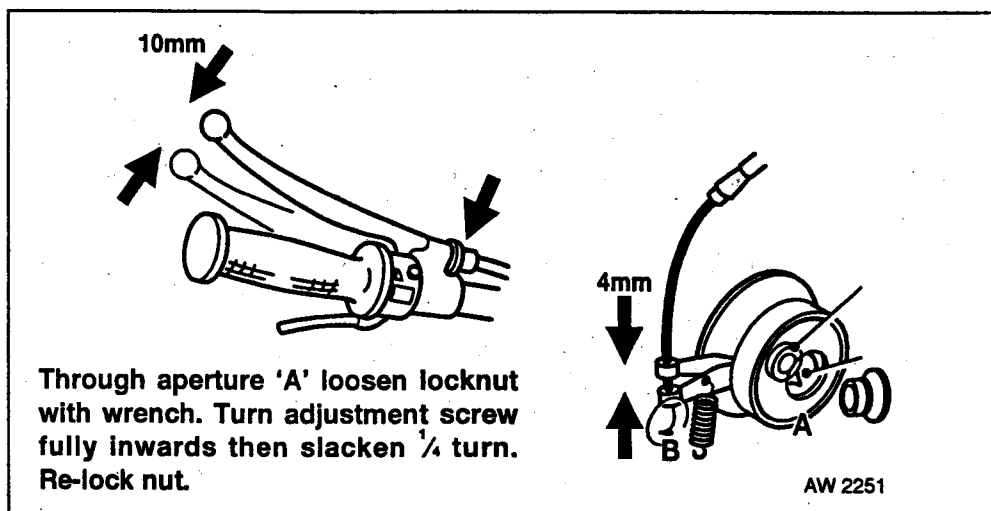

Fig 2.39 Clutch Adjustment Points
- Turn adjusting screw clockwise until it bottoms, then back off counter clockwise $\frac{1}{4}$ turn. While holding screw in this position, tighten the lock nut. Fig 2.39 refers.